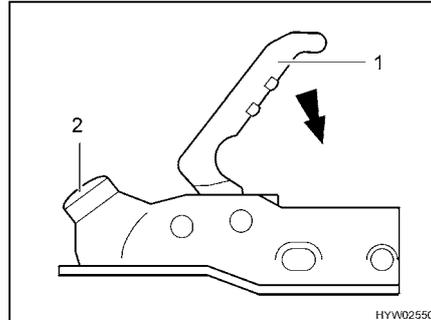

Fig. 2 AK 300/160 caravan coupling
- Place the open caravan coupling (Fig. 2) on the towing vehicle caravan ball. The caravan coupling now locks automatically and audibly in place. The handle glides automatically back to its initial position.
- In addition, push the coupling handle (Fig. 2,1) down with your hand (not with your foot). Closing and securing is carried out automatically.
- Conduct a visual inspection: The green cylinder on the safety indicator (Fig. 2,2) must be visible.